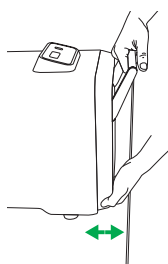

Figure 7
3. Open the door as far as possible by pulling the handle forwards. (Fig. 7)